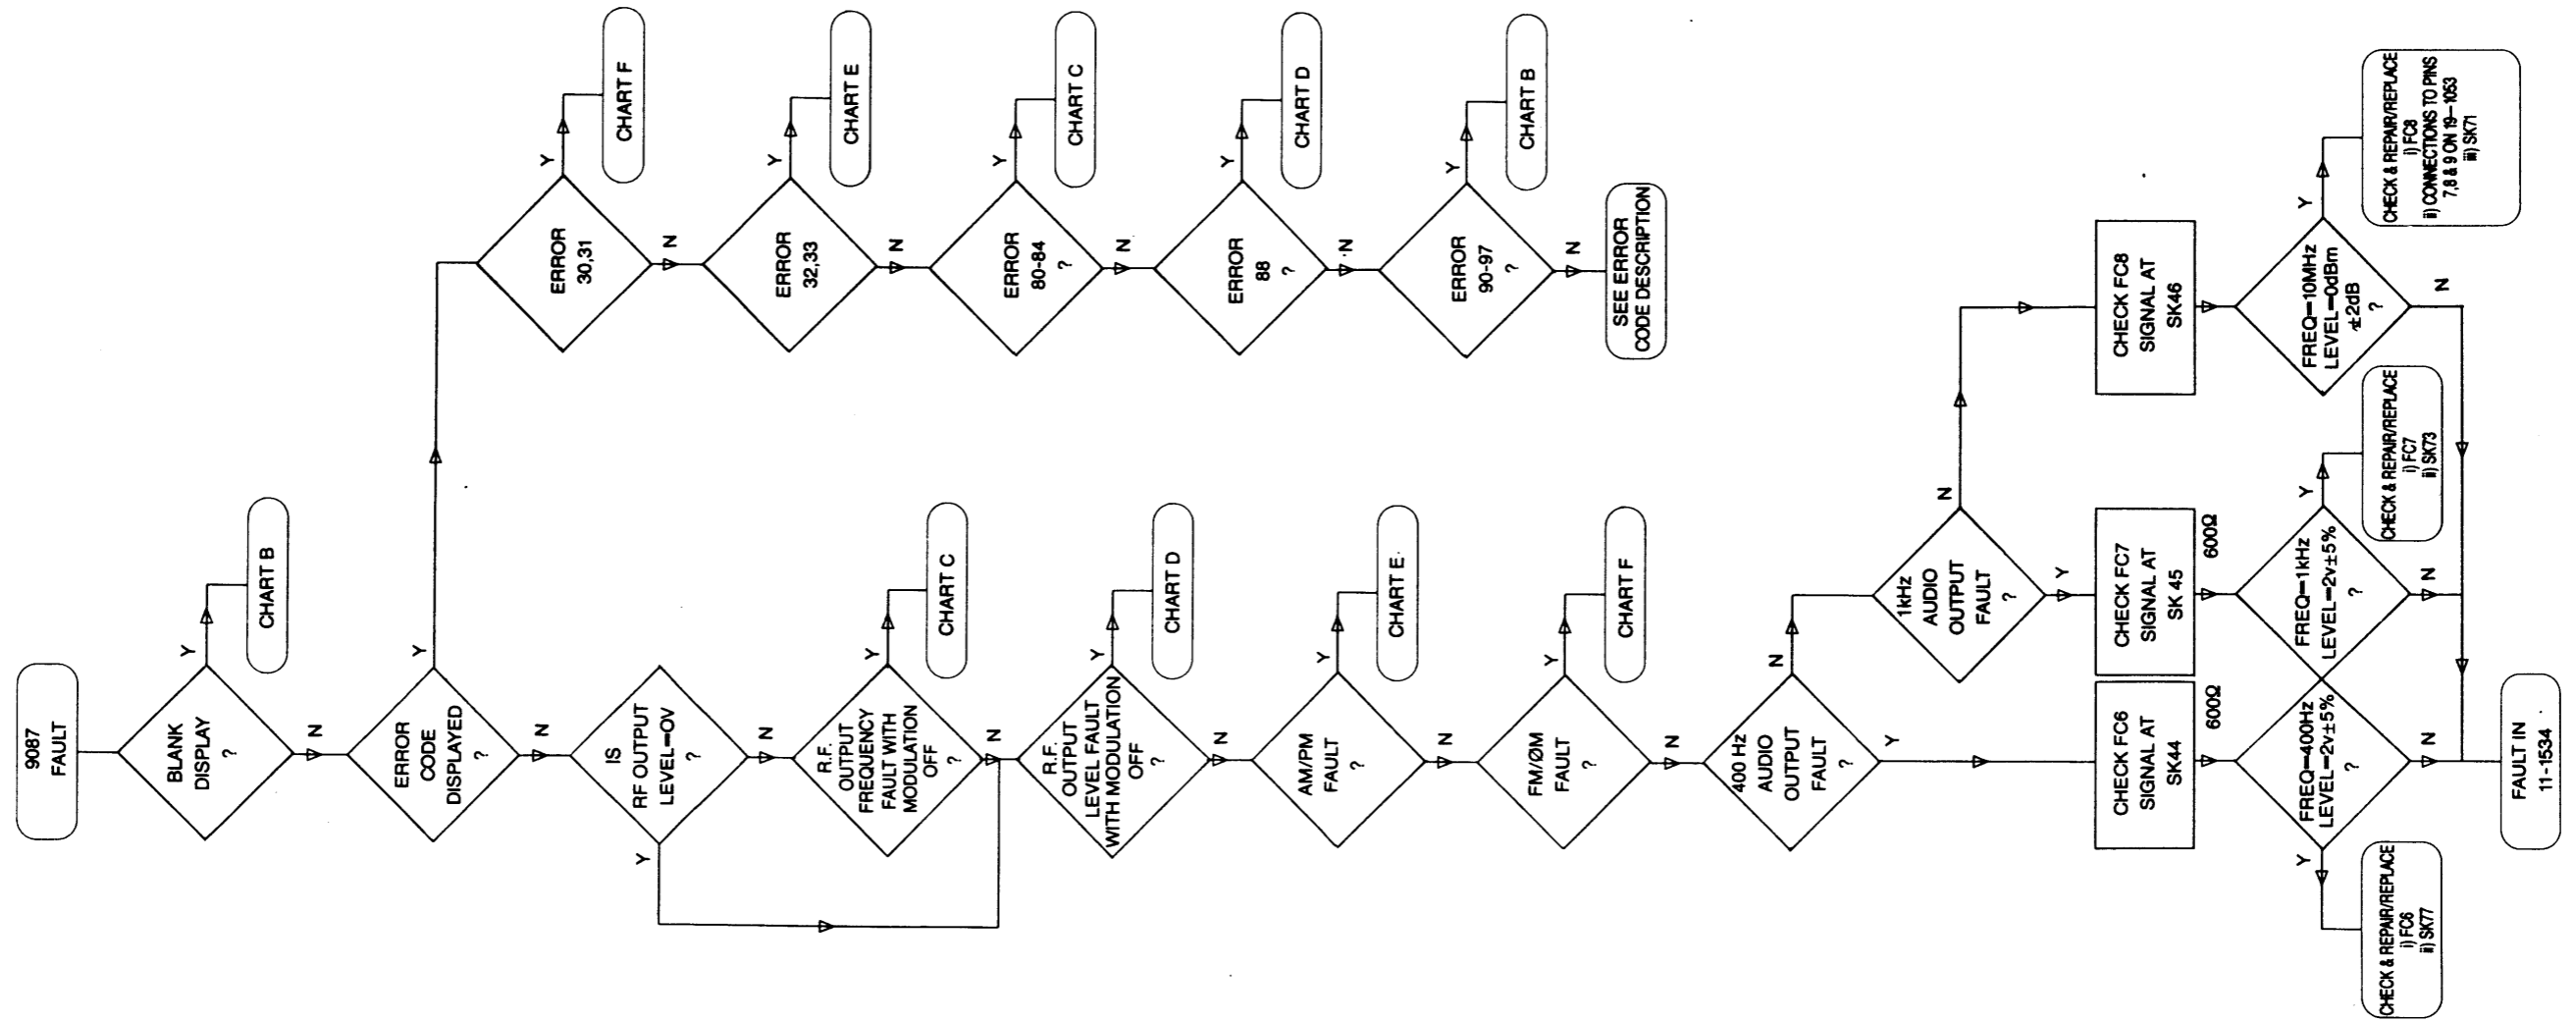
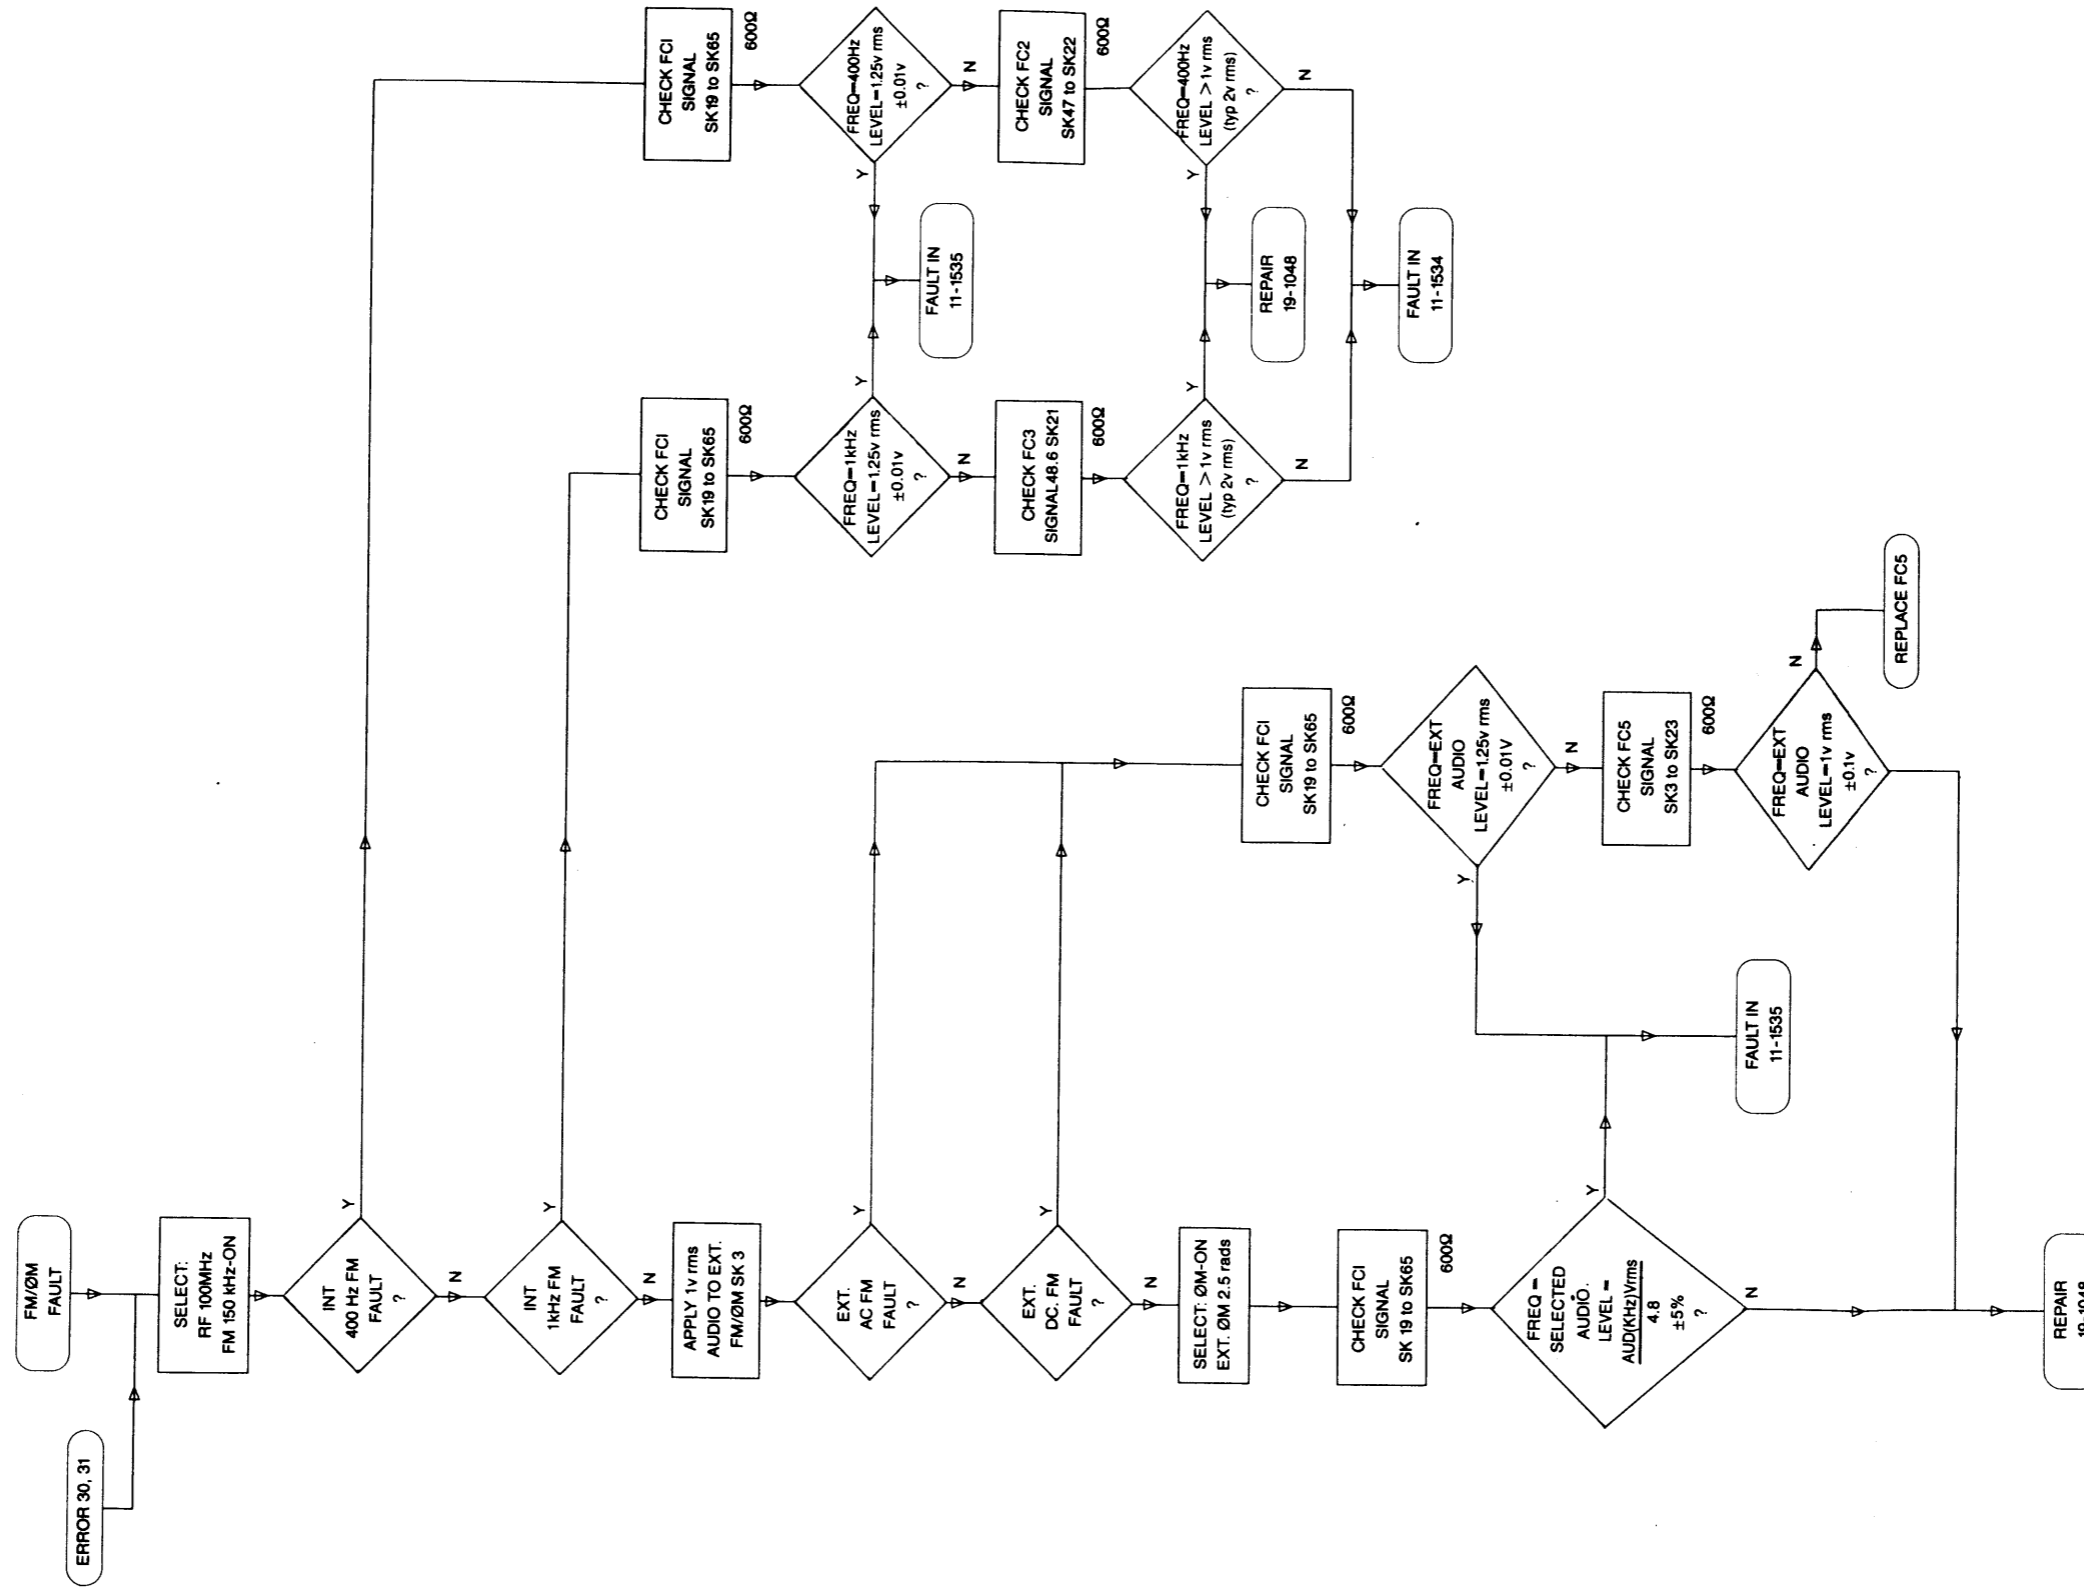

Fig. 7.7 Fault Finding Procedure - Chart A
Fig 7.12 Fault Finding Procedure - Chart F
7.6.1 A guide to fault location is given in the flow charts of Fig. 7.7 to Fig. 7.12. The charts provide a logical procedure for locating a fault to module level. The module block should be removed from the 9087, and connected to the chassis using the connectors provided in the Service Support Kit, Racal-Dana part number 11-1579.